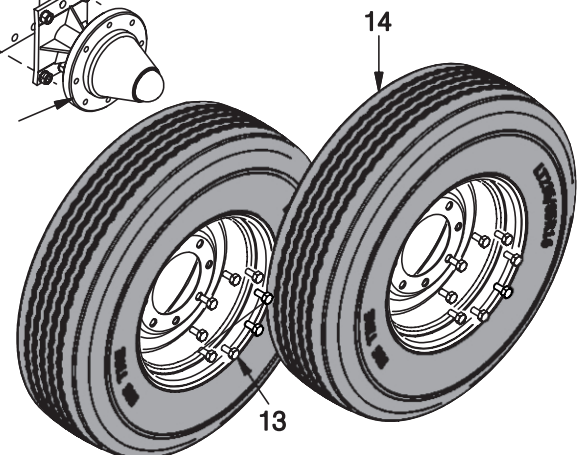

Figure 2-3-5 - Mounting Tandem Wheel Plate Hubs and Tires
B. Place (1) Item 7 Channel onto the baler frame as shown in Figure 2-3-5. Torque all nuts and bolts as per torque chart on page 2-3-1.
C. (See Figure 2-3-5) Place (1) Item 9 Tandem Wheel Plate as shown. Place (2) Item 8 Spacer Plates and (2) Item 12 Hub/Spindle Assys on to the Tandem Wheel Plate. Torque all nuts and bolts as per torque chart on page 2-3-1.